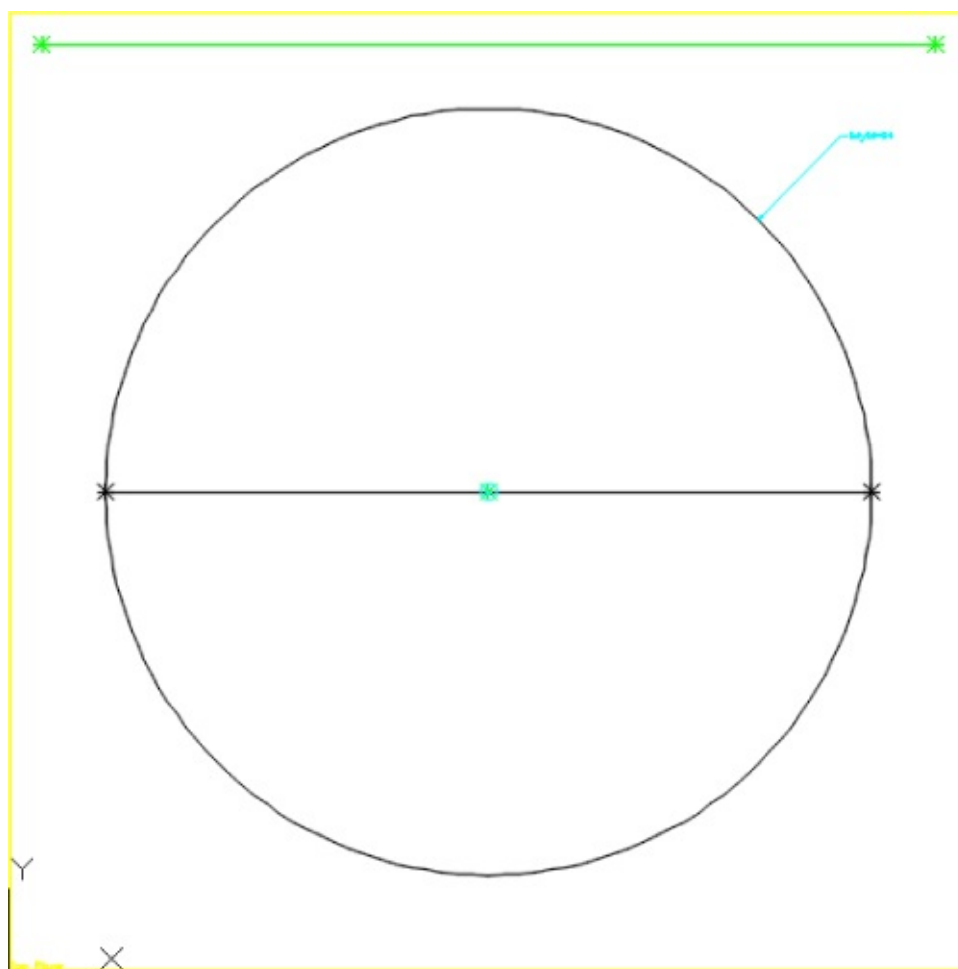

Figure 13.100 DWG file as shown in Content Builder
- A Part Builder pane will appear with `AeccCircularConcretePipe_Imperial.dwg` (`AeccCircularConcretePipe_Metric.dwg` for metric users) on the screen, along with the Content Builder Toolspace, as shown in Figure 13.100.